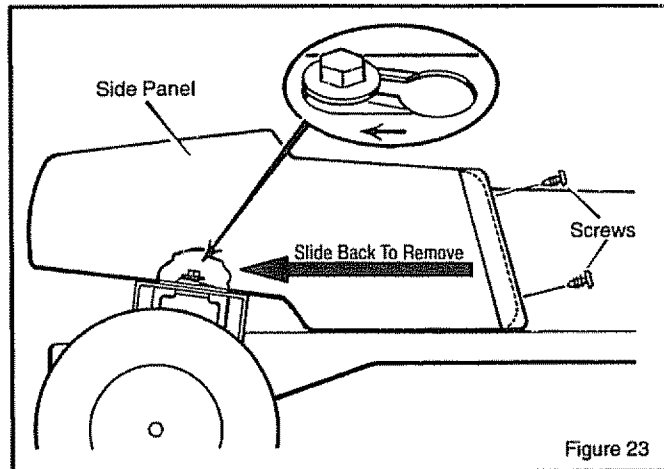

Figure 23
2. Remove the large **screws** that hold the front of the **side panel** (Figure 23).